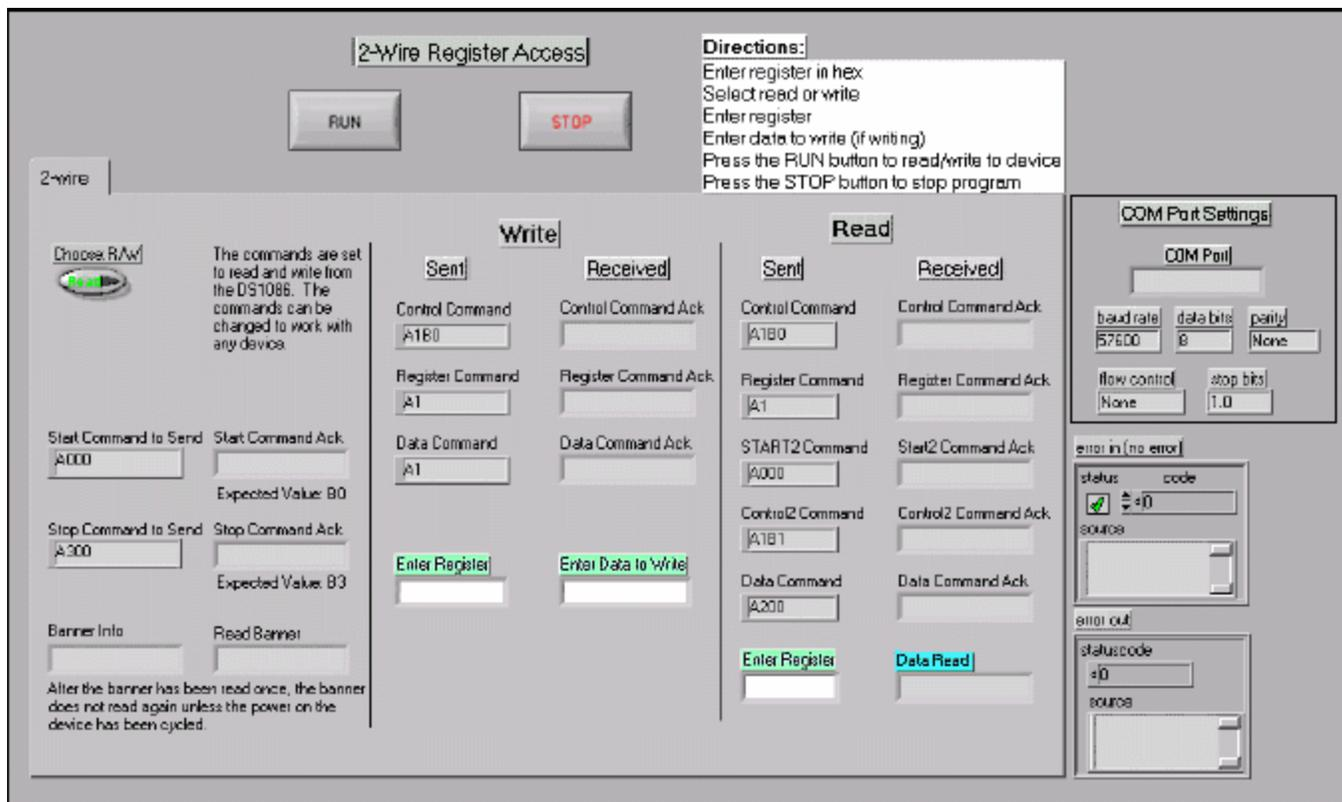

Figure 5. Communicate\_2wire.vi Front Panel.
- Enter register (see **Figure 5**)